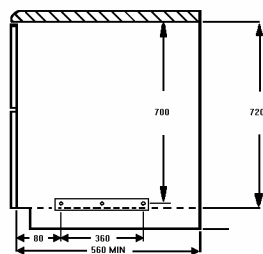
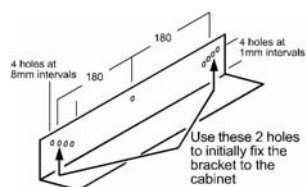

Fig. 5
Fig. 7
- Make sure the space between the cabinets is the correct size for the appliance to be fitted (Ref. Fig. 5 & 6).
- Drill two pilot screw holes into the sides of the adjacent cabinets, in the positions indicated by Fig. 5.
- Fit the appliance mounting brackets using the two holes indicated in Fig. 7 to the adjacent cabinets (Ref. Fig. 5 & 6).